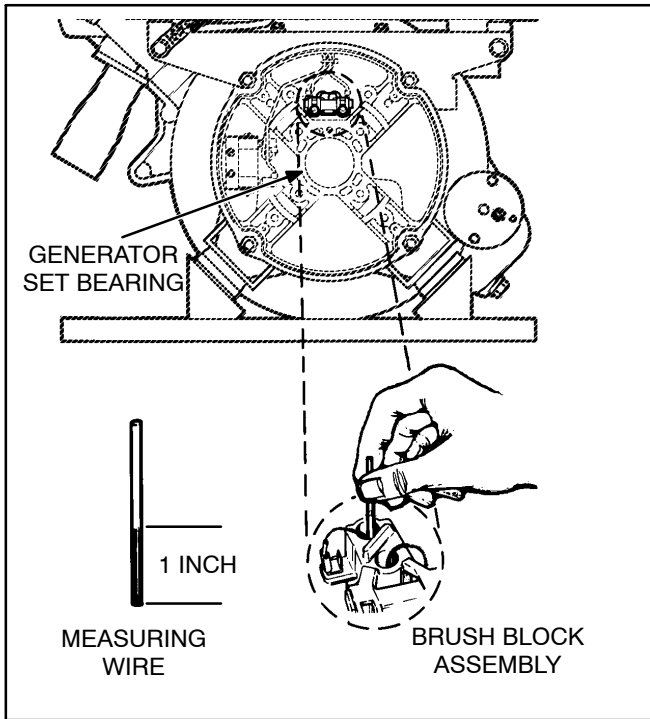

FIGURE 5-6. CHECKING GENERATOR SET BEARING AND BRUSH BLOCK
2. Check the brushes for wear with a piece of wire marked off 1 inch (25 mm) from one end (Figure 5-6). Replace the brush and the spring if the wire goes into the brush holder 1 inch or more.